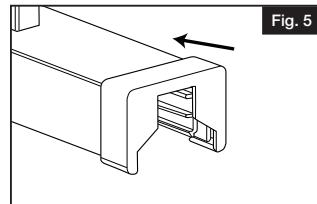
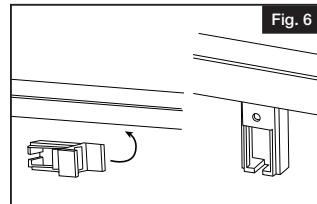
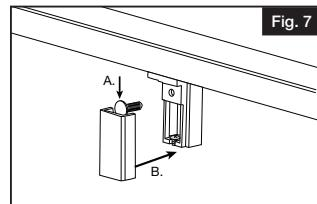

Fig. 5
Fig. 6
Fig. 7
- Push bolts through post plate and attach separate bottom plate from beneath deck surface (Fig. 6).
Test fit top and bottom rails. Once proper fit is ensured, press bottom bracket covers onto the ends of the bottom rail (Fig. 5) and set it in place and set in place on bottom brackets. Pivot support foot in place under center of rail as shown (Fig. 6). Secure support foot to the mounting surface using the $1\frac{1}{2}$ " screw provided and press fit cover into place using plastic plug as shown (Fig. 7).